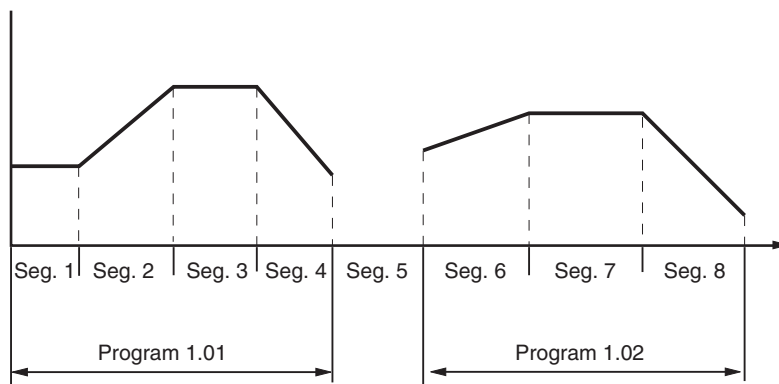

Fig 4.2 Program Configurations
- **99 programmable segments** – can be shared between programs and controllers – see Fig. 4.2.
4.2.1 Program Configurations – Fig. 4.2
There are 99 segments that can be shared between programs and control channels. For normal applications it is recommended that segments 1 to 50 are assigned to channel 1 and segments 51 to 99 are assigned to channel 2. Fig. 4.2 shows 8 segments, shared between two separate programs on channel 1.